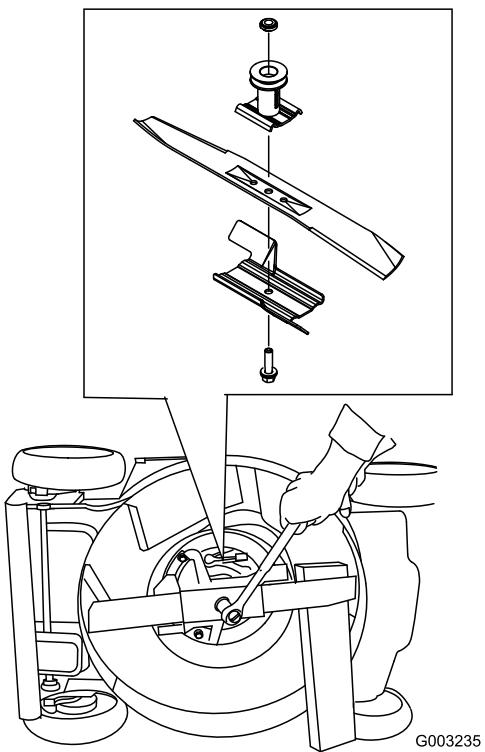

Figure 38
3. Use a block a wood to hold the blade steady (Figure 38).